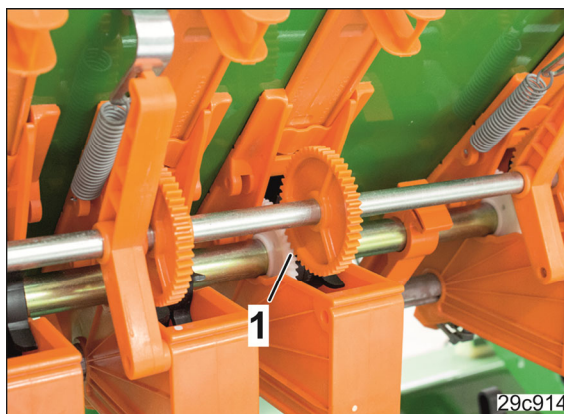

Fig. 254
- 10.1 Make sure that the cogs (Fig. 254/1) of the gear wheels are meshed.